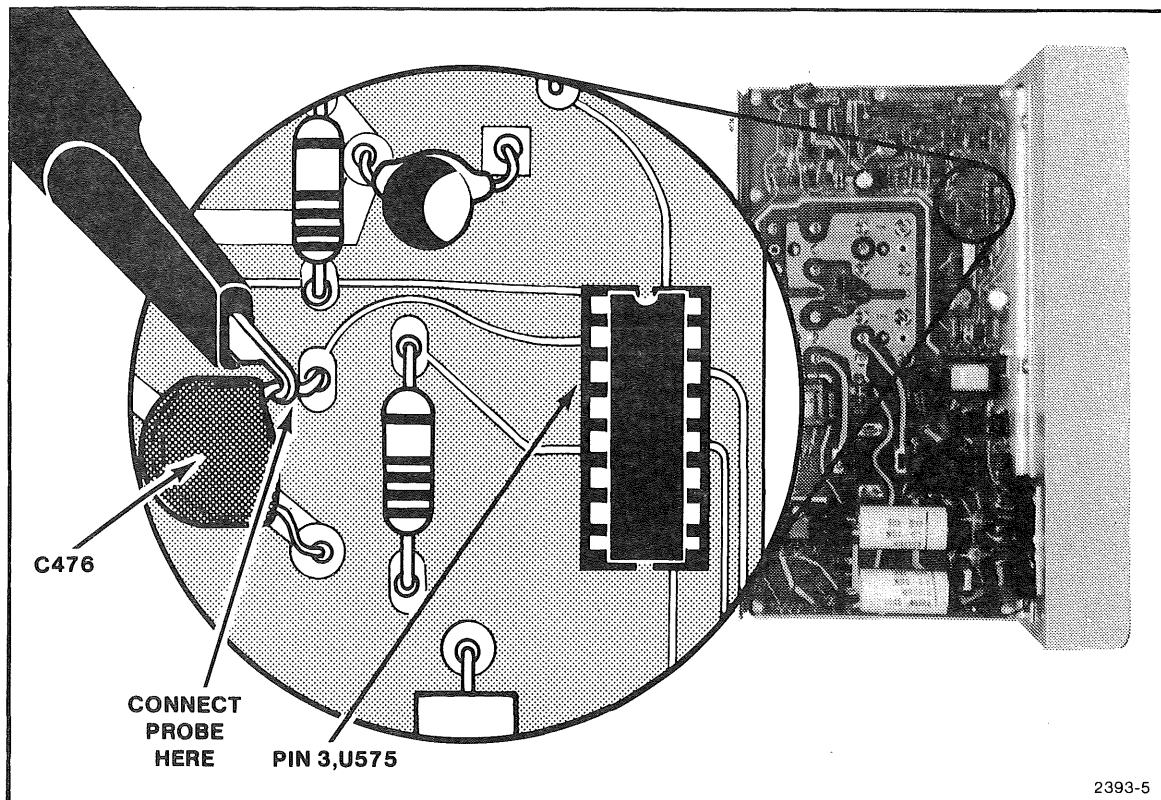

Figure 3-4. Connecting the Trigger to the Power Supply.
- a. Connect Channel 1 between C476 and Pin 3 of U575 (Figure 3-4).